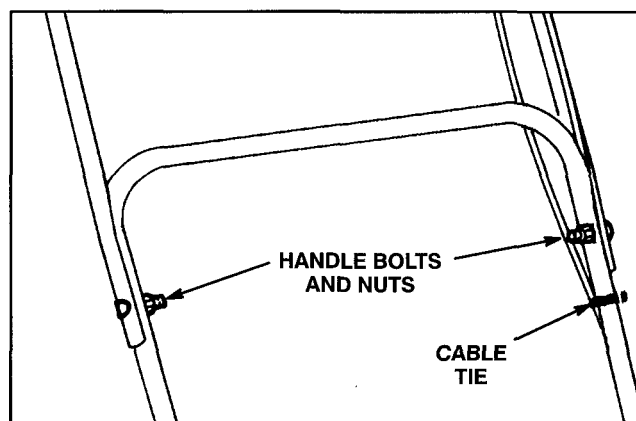

Figure 2
6. UPPER HANDLE (Fig. 2)—Secure upper and lower handles in place with handle bolts and nuts. Position nuts on inside of handle.
8. Secure control cables to left side of handle with a cable tie (Fig. 2).